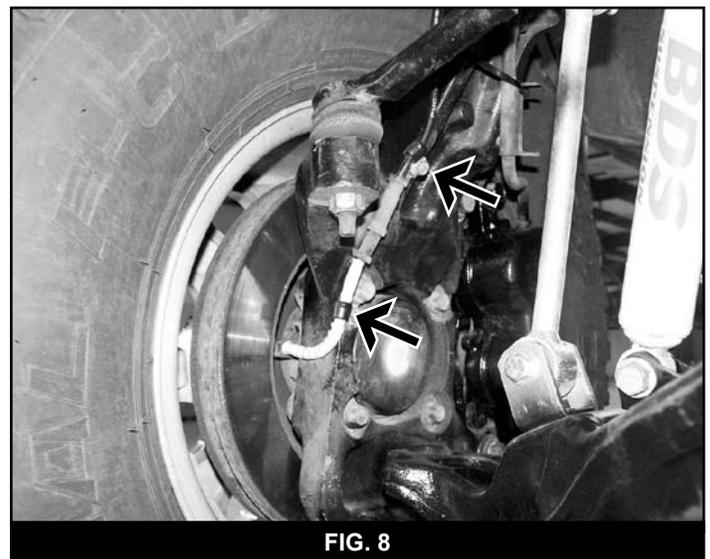

FIG. 8
36. Attach the ABS line to the front side of the knuckle with the provided wire clamps and 1/4" x 3/4" bolts, 1/4" SAE flat washers and 1/4" lock washers from bolt pack #544. Torque to 10 ft-lbs. Attach the ABS wire to the upper control arm with the provided wire ties and reconnect the wire connector at the frame (Fig 8).